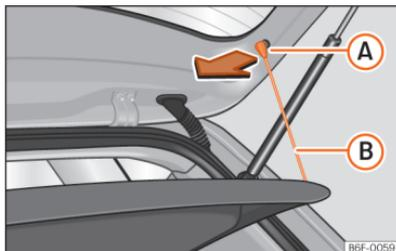

Fig. 143 In the boot: removing and installing the shelf.
- Detach the cord loops >>> Fig. 143 **B** from their hooks **A**.
- Attach the securing straps >>> Fig. 143 **B** onto the rear lid.